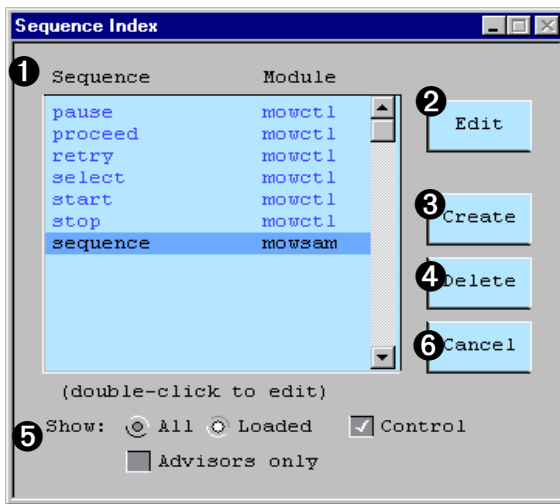

Figure 4-1
- ❶ Shows all the currently defined sequences and the module they are assigned to. A sequence is automatically loaded when its assigned module is loaded. Double-click a sequence to open the sequence editor. Loaded sequences are shown in black, unloaded sequences are gray, and the sequences in the selected module are blue.
- ❷ Choose to open the Sequence Editor and begin editing the selected sequence.
- ❸ Choose to create a new sequence. The window shown in Figure 4-1 is displayed.
- ❹ Choose to delete the selected sequence.
- ❺ Indicate which types of sequences should be displayed.